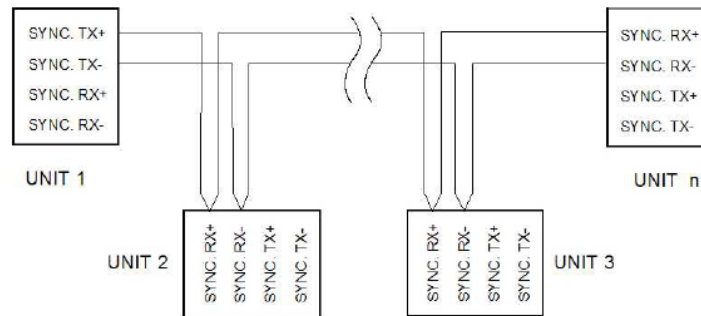

Figure 4.13 Synchronization Interface Connection
Figure 4.13 shows the way that the readers must be connected for Master/ Slave synchronization or Triggered synchronization, both without acknowledgement. In this figure, Unit 1 is the Master and all other units are Slaves. The individual SW configuration (Master or Slave) is shown in (1) If the distance between Unit 1 and Unit n is less than approximately 400m, JP13 can be left out.